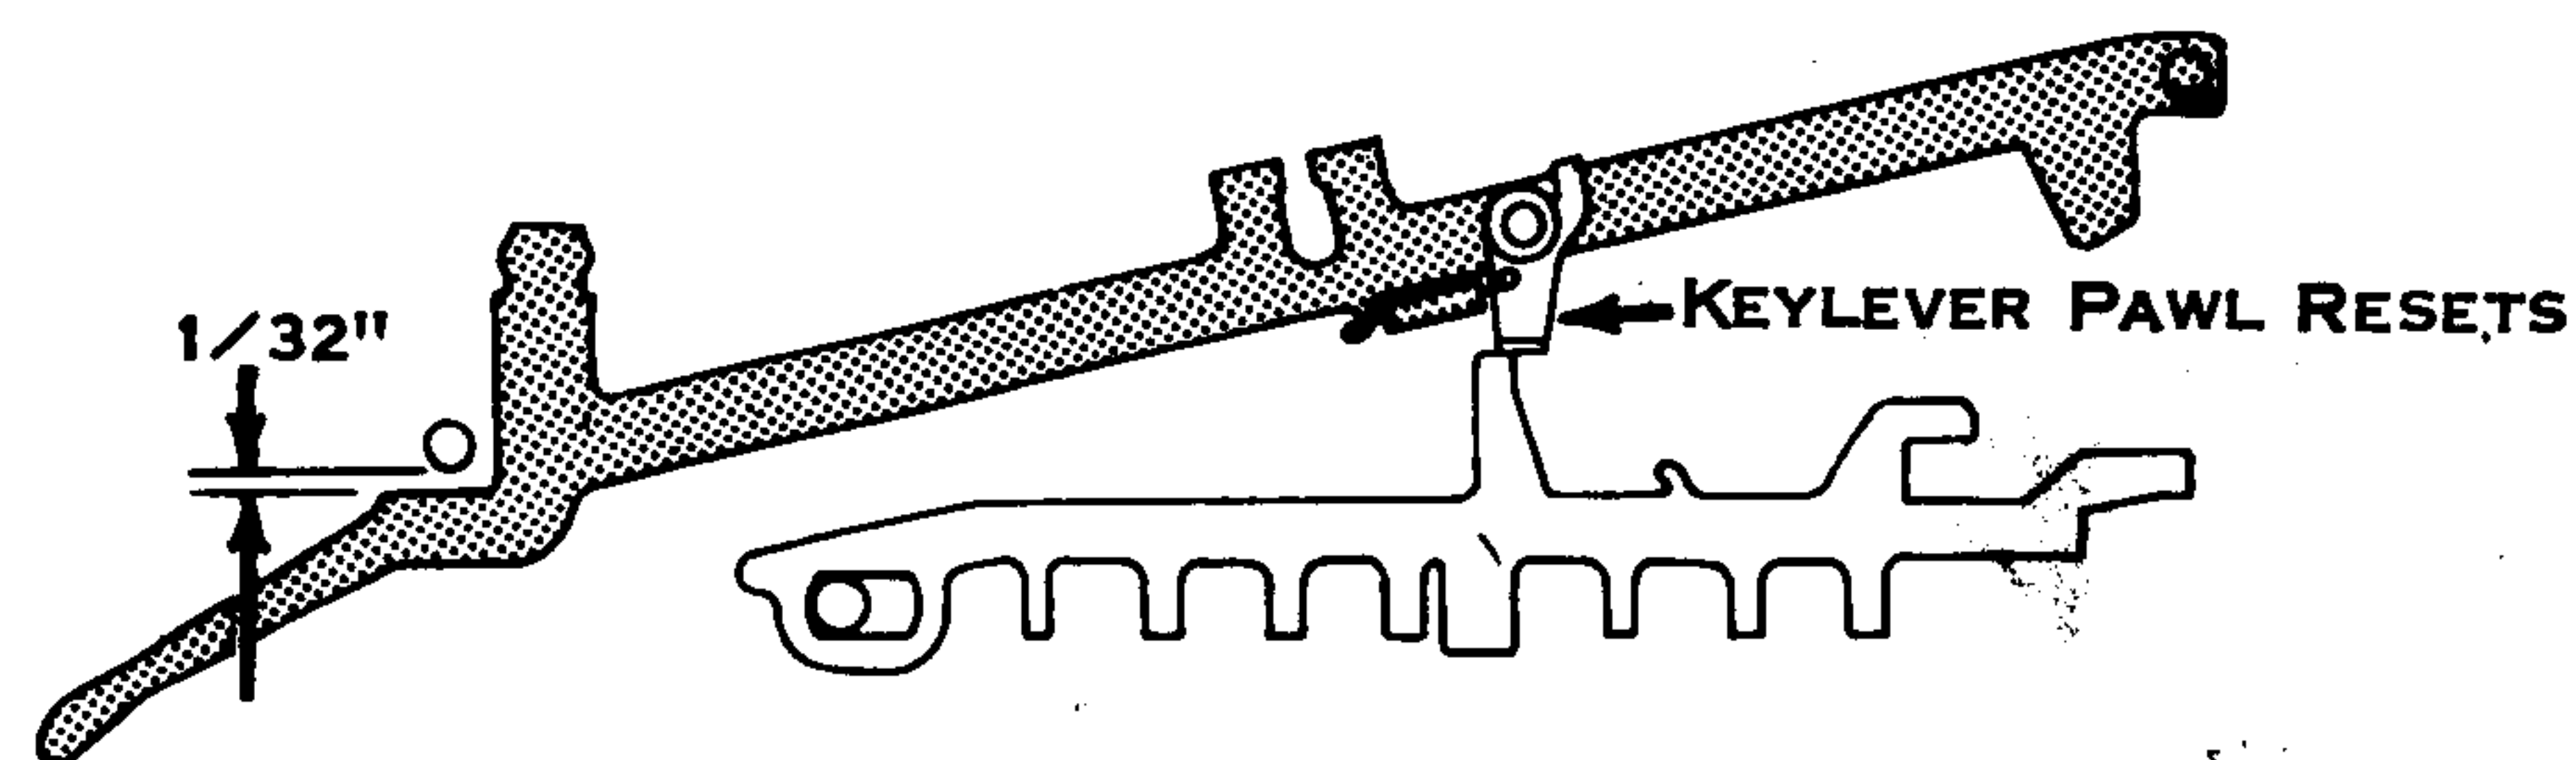

Figure 14. Front Keylever Guide Comb.
10. Front Keylever Guide Comb (Fig. 14) - Position vertically to allow  $1/32''$  keylever travel after the keylever pawl resets.